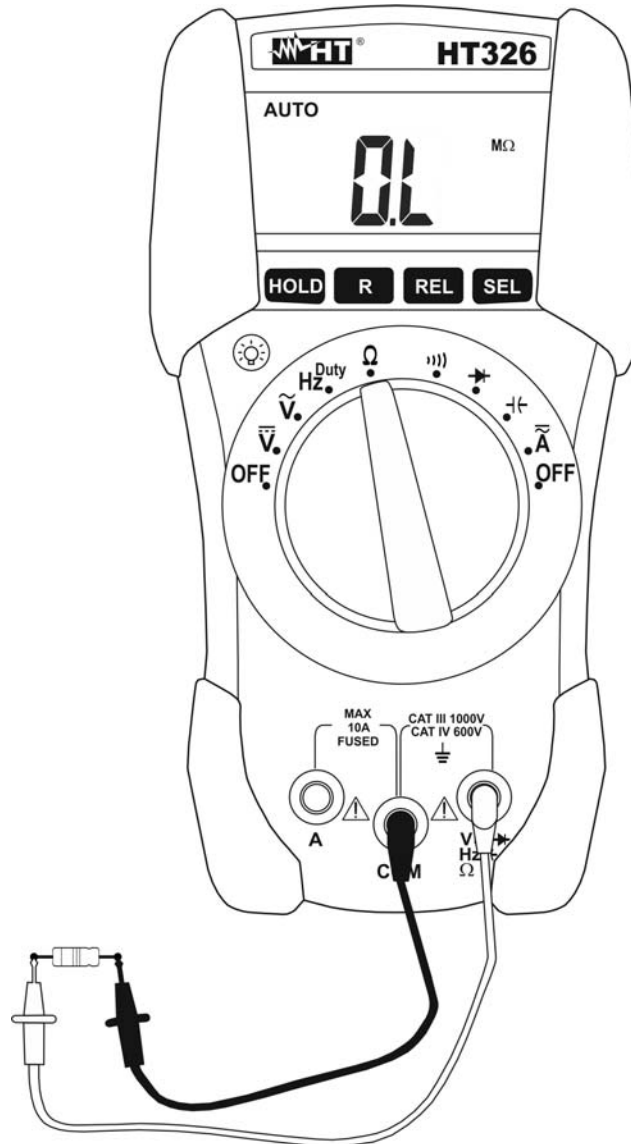

Fig. 6: Using the instrument for Resistance measurement
4. Connect the test leads to the circuit under test (see Fig. 6). The resistance value is displayed